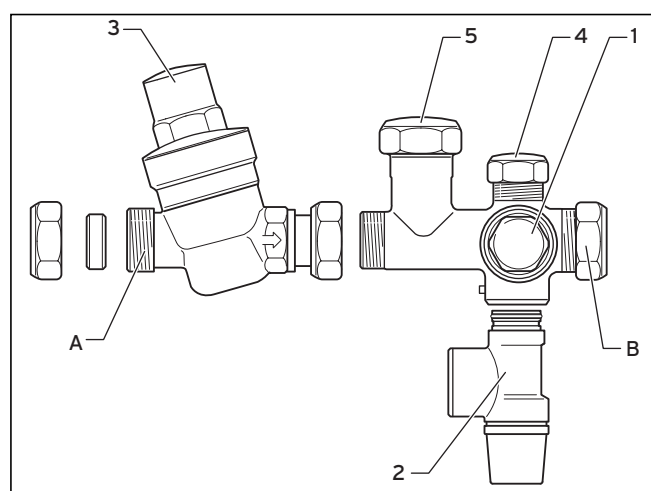

Fig. 5.16 Water control pack
- Connect both parts of the water control pack as illustrated in Fig. 5.16.
- When installing the valves, make sure they are aligned in such a way that the 15 mm connection of the expansion relief valve (Fig. 5.16, pos. 2) can be connected to the tundish.
- Install the discharge pipe of the expansion relief valve (Fig. 5.16, pos. 2) so that it has a constant outward slope and ends at a safe, visible point where there is no risk of freezing.
- Test the expansion relief valve (Fig. 5.16, pos. **2**) regularly to avoid calcification.
- Connect the solar cylinder to the cold water supply (Fig. 5.16, pos. **B**).
To ensure an optimum performance of the solar cylinder, in particular in installations in which the pressure-controlled cold water outlet (Fig. 5.16, pos. **5**) is used, copper pipes with a diameter of at least 22 mm should be used for the pipe from the main stop valve of the building to the solar cylinder.
- Screw the expansion vessel directly onto the water control pack (Fig. 5.16, pos. **4**) via the connection intended for this purpose or
- Establish (if necessary) the connection to the pressure-controlled cold water connection of the water control pack (see **5**, Fig. 5.16).
In areas with high water pressure (4 bar or more), a bath or shower mixer valve can also be connected to the pressure-controlled cold water connection (**4**, Fig. 5.16) of the water control pack to ensure the pressure of the hot and cold water supply to the mixer valve is about the same. The cold water supply for all other connections should be installed in front of the water control pack in the cold water supply to the solar cylinder by means of a T-piece.